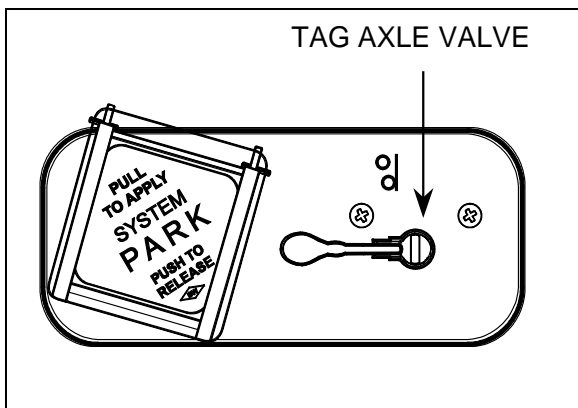

FIGURE 11 : TAG AXLE VALVE ON THE LEFT-HAND CONTROL PANEL
1. For the **front** slide-out only, the tag axle must be unloaded by the manual switch located on the left-hand control panel with the ignition key to the "ON" position (figure 11).
1. For the front slide-out only, the tag axle must be unloaded by the manual switch located on the left-hand control panel with the ignition key to the "ON" position (see figure 11).